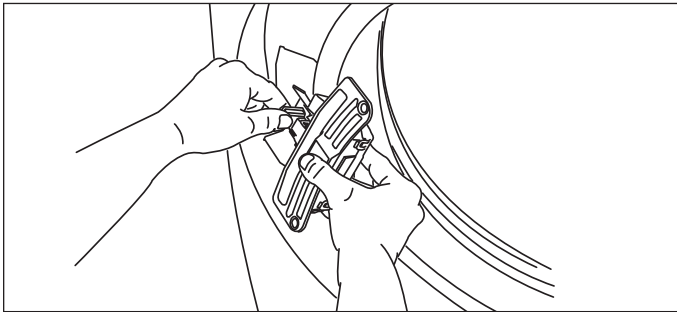

Figure 2-27.
2. Connect the harness to the door lock by inserting it in the terminal and firmly pushing it in place. (See Figure 2-27)